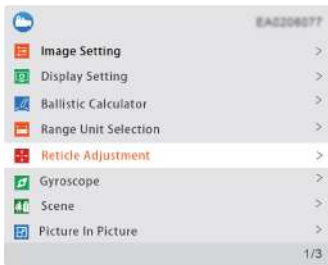

Fig. 8
Please use the "figure 8 pattern method" to calibrate the compass.
Users are required to tilt and move the device in a figure 8 motion until the compass is calibrated as shown in the Fig. 7.
(2) **Enter the reticle adjustment (Zeroing page):** From the home screen, press [Key 2] to access the menu. Then press [Key 3] to select the Reticle Adjustment option. Press [Key 4] to enter the sub-menu interface shown in Fig. 8.